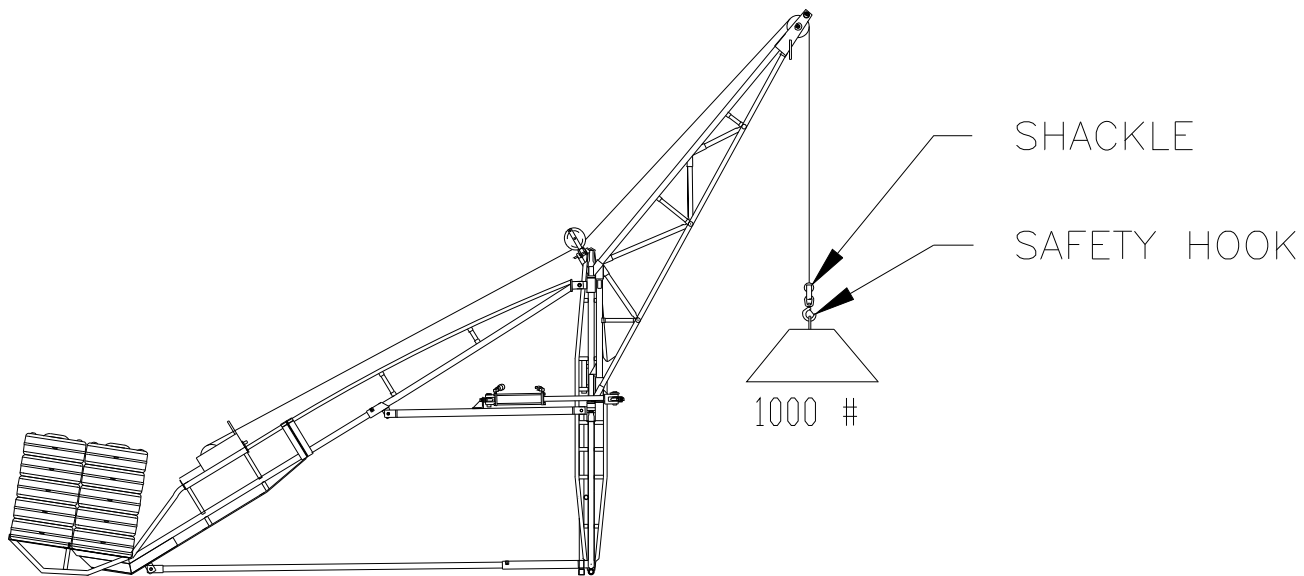
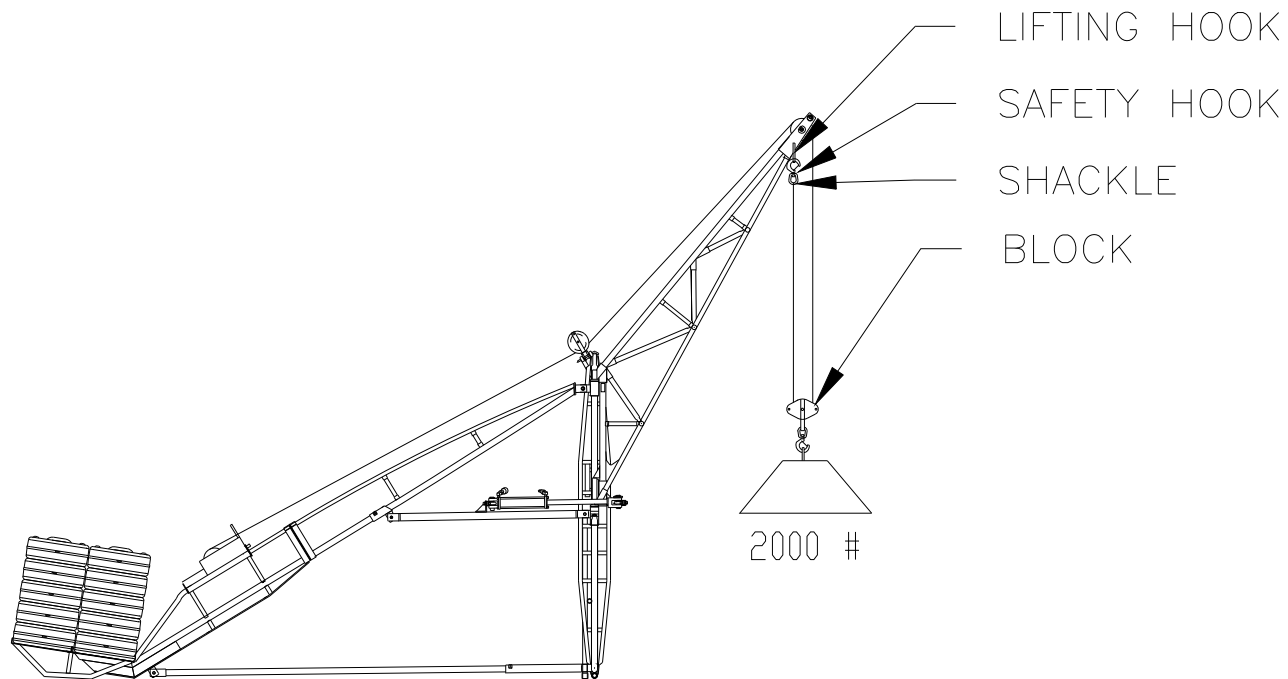

Figure 3-13.
Figure 3-14.
6. For single line lifting, attach shackle and safety hook as shown in Figure 3-13. For double line lifting, reeve wire rope through block and attach shackle and safety hook. Secure to lifting hook on Boom as shown in Figure 3-14.